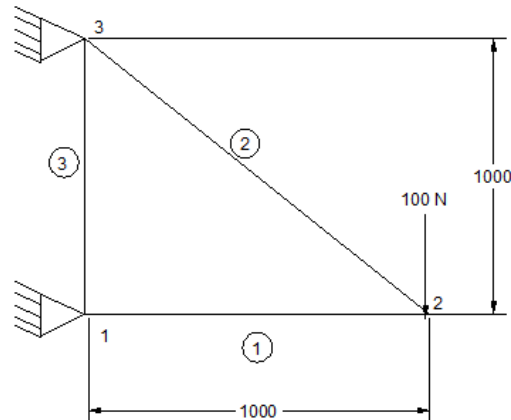

Figure: 5
- b. Figure 5 shows a truss consisting of three elements whose AE/L value is 1000 N/mm . Calculate the deflection at node 2. 07